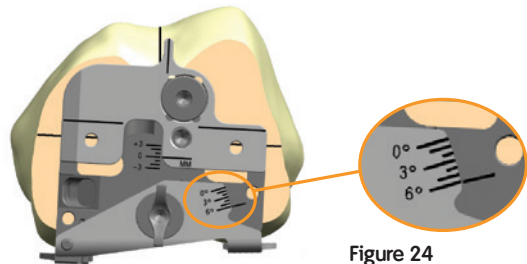

Figure 24
- Ensure that the lateral paddle contacts the posterior lateral condyle. Begin with the paddle set to 3°. Rotate away from 3° if it is desirable to match the A/P or epicondylar axis or if it is desirable to balance the medial and lateral flexion gaps (Figure 24).